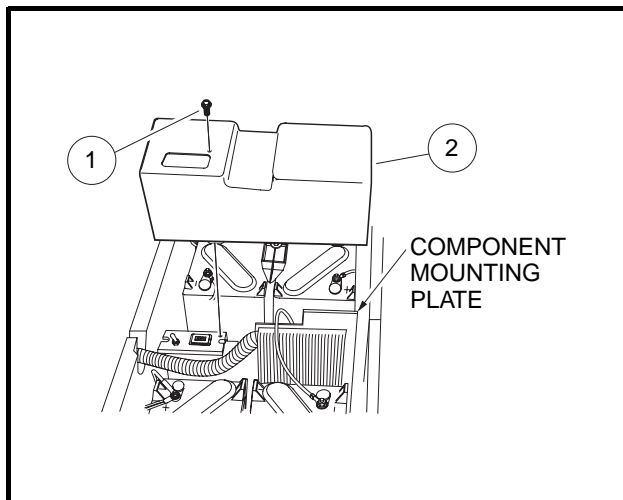

Figure 11-6 Electronic Module Cover
For many tests the electronics module cover must be removed to gain access to the various components that are mounted on the component mounting plate. Remove screw (1) and remove cover (2) (**Figure 11-6, Page 11-13**). See following **WARNING**.